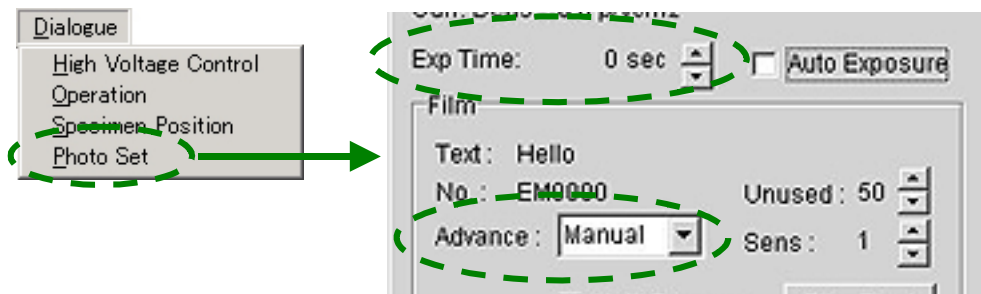

Fig. 5.46 Film Camera Property window(Manual exposure mode)
1. Turn off the AUTO switch (R1-⑧) or remove the check mark from the Auto Exposure box of the **Film Camera Property** window to enter the manual exposure mode (☞ Fig. 5.46).
2. Choose the desired exposure time using the EXP TIME knob (R1-⑧) or the Exp Time arrow buttons (▲ and ▼) in the **Film Camera Property** window.
3. Press the PHOTO switch (R1-⑧) to move the film to the photographing position.
4. Press the PHOTO switch (R1-⑧) again to photograph the image.